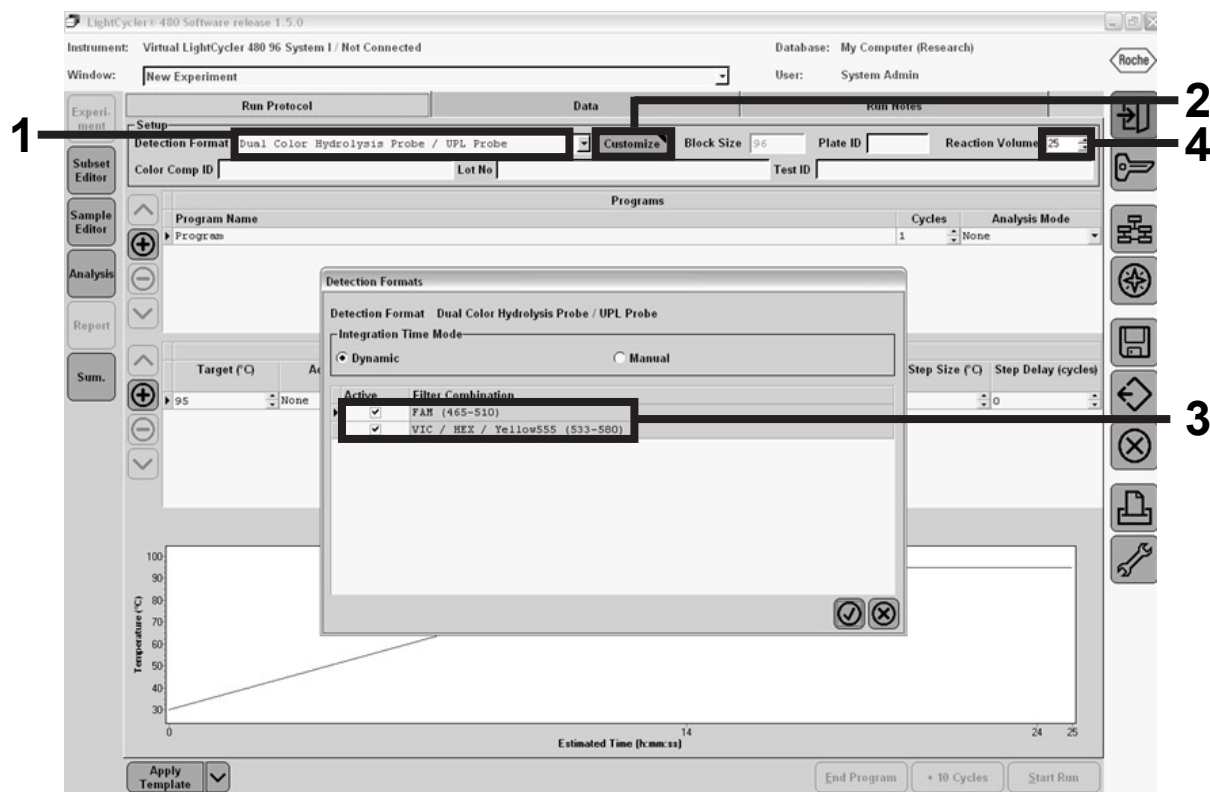

Figure 22. LightCycler 480 II: Setting the detection format.
- 11b. LightCycler 480 II: Select “Dual Color Hydrolysis Probe”, click “Customize”, and then check that the channels” FAM (465–510)” and “VIC / HEX / (533–580)” are selected (Figure 22). Set the reaction volume to “25”  $\mu$ l (Figure 22) and proceed with step 12.